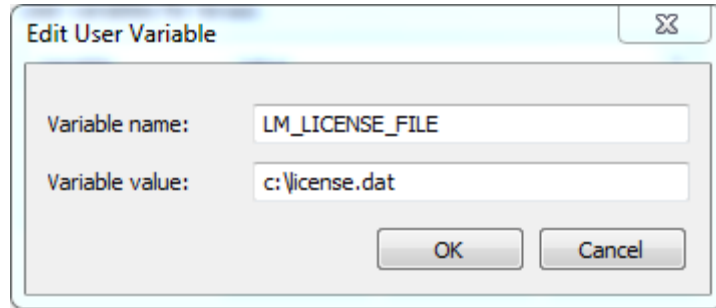

Figure 2-3 Setup LM_LICENSE_FILE Environment Variable
5. In the popup **New User Variable** dialog as shown in Figure 2-3, type “**LM_LICENSE_FILE**” in the **Variable name** edit box and type “**c:\license.dat**” in the **Variable value** edit box.